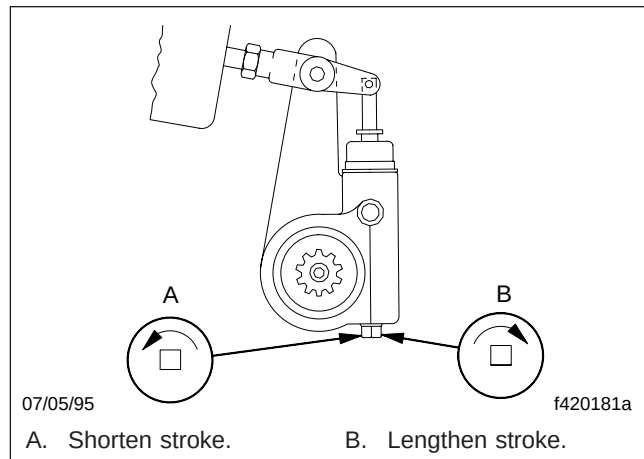

Fig. 7, Brake Stroke Adjusting
3.4 Turn the adjusting nut one-eighth turn, as shown in Fig. 7. Measure the stroke again, and adjust until correct.
- 4.4 Turn the adjusting nut one-eighth turn, as shown in Fig. 7. Measure the stroke again, and adjust until correct.